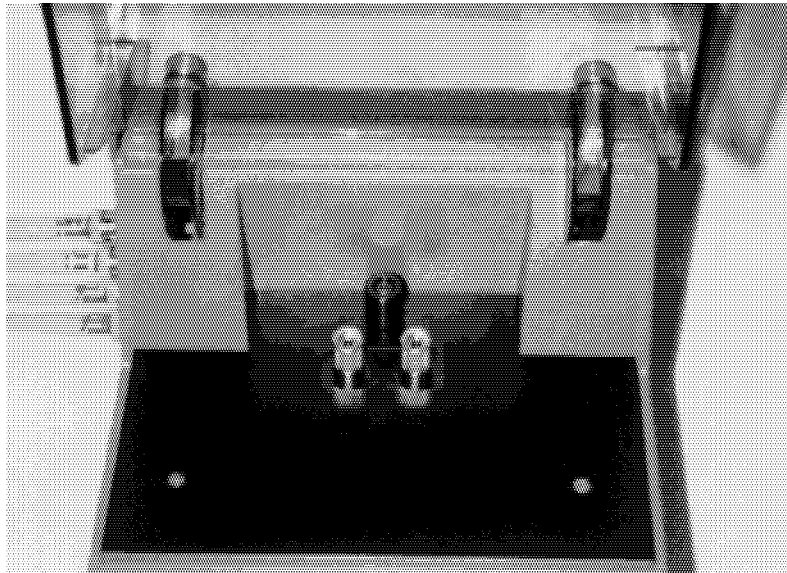

Figure 3-23. Open Condition of the 42842C
- b. Leave the 42842C OPEN as shown in Figure 3-23